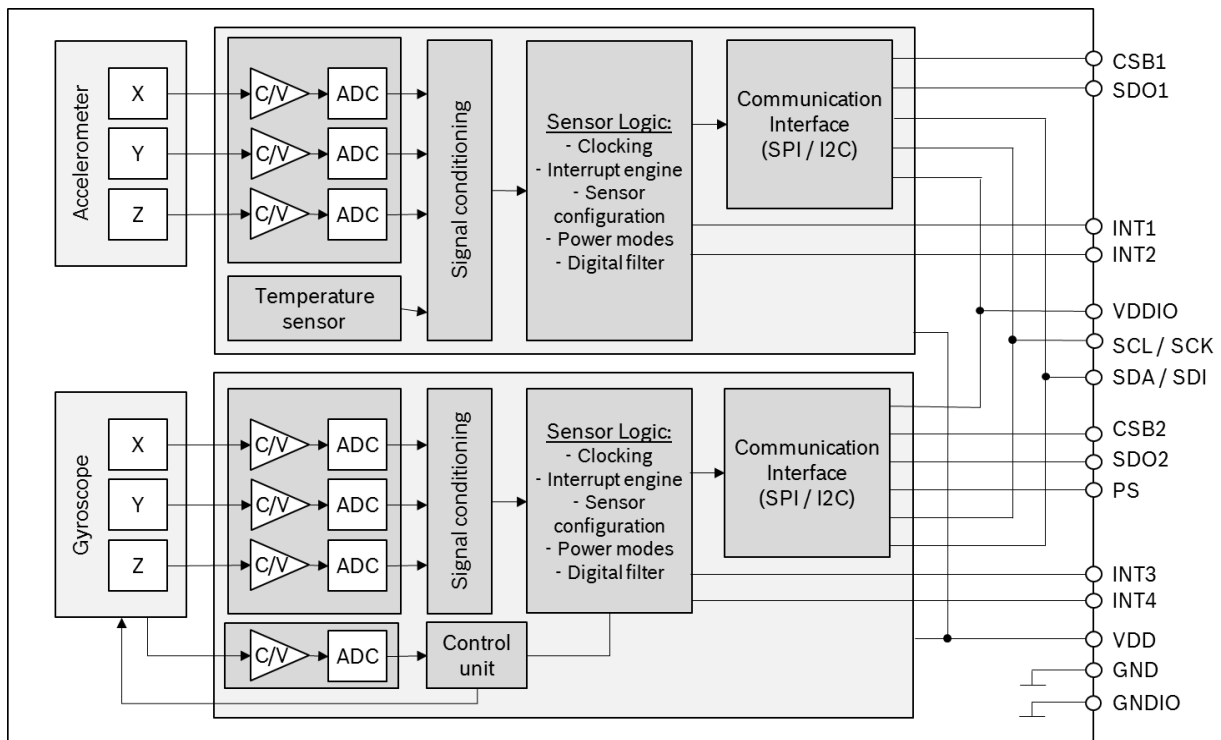

Figure 2 Simplified block diagram of the SMI230
Figure 2 shows the basic building blocks of the SMI230. As stated in Figure 2, the accelerometer and the gyroscope MEMS elements are each evaluated by their own ASIC. Both sensing elements detect voltage (V) variations, feeding into the analog-digital converter (ADC). The digital signals are further processed and accessible via SPI or TWI.